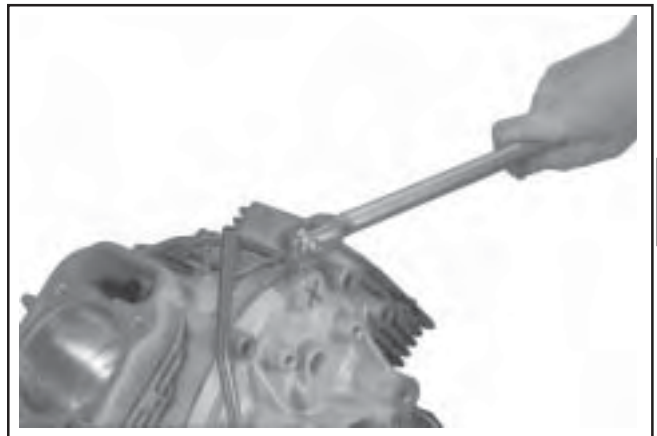

**Figure 9-66. Removing the Ten Closure Plate Fasteners.**
1. Remove the ten hex flange screws securing the closure plate to the crankcase. See Figure 9-66.